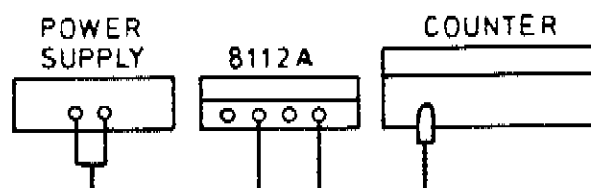

Figure 4-13. Equipment setup for Width Control performance test.
1. Connect equipment as shown in Fig. 4-13.